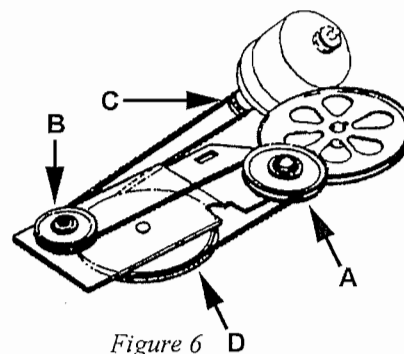

Figure 6
9. While inserting the new belt, exercise care because there are sharp edges on the assemblies that can damage the belt. Place the belt around the large pulley on the Pulley and Bracket Assembly, Figure 6, D.
10. Referring to Figure 6, hold the pulley and belt in place at the bottom with your left hand and pass the belt around large idler pulley A and back to the small idler pulley B on the Pulley and Bracket Assembly.